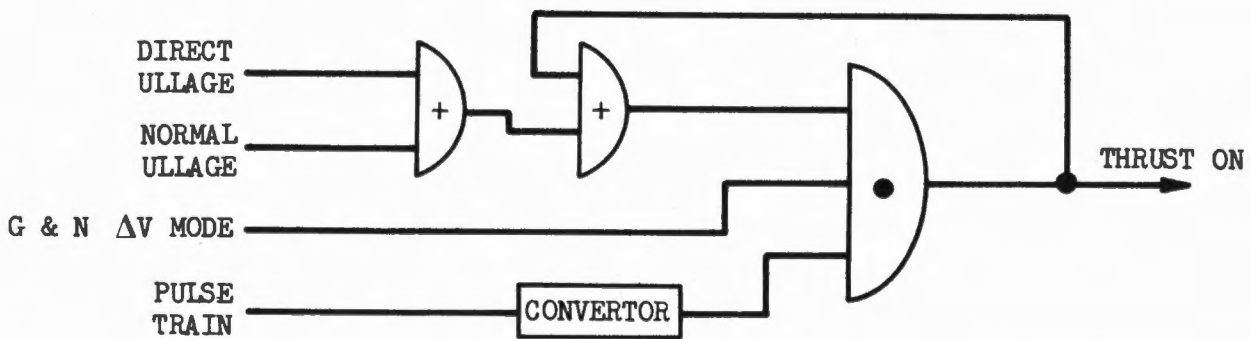
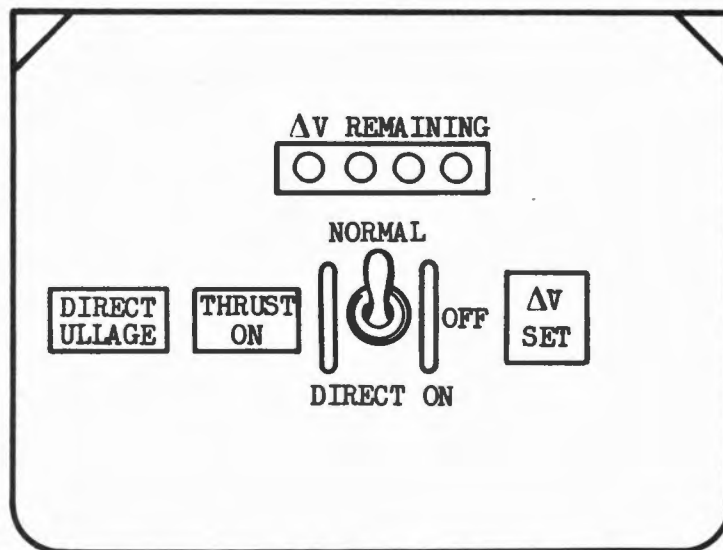
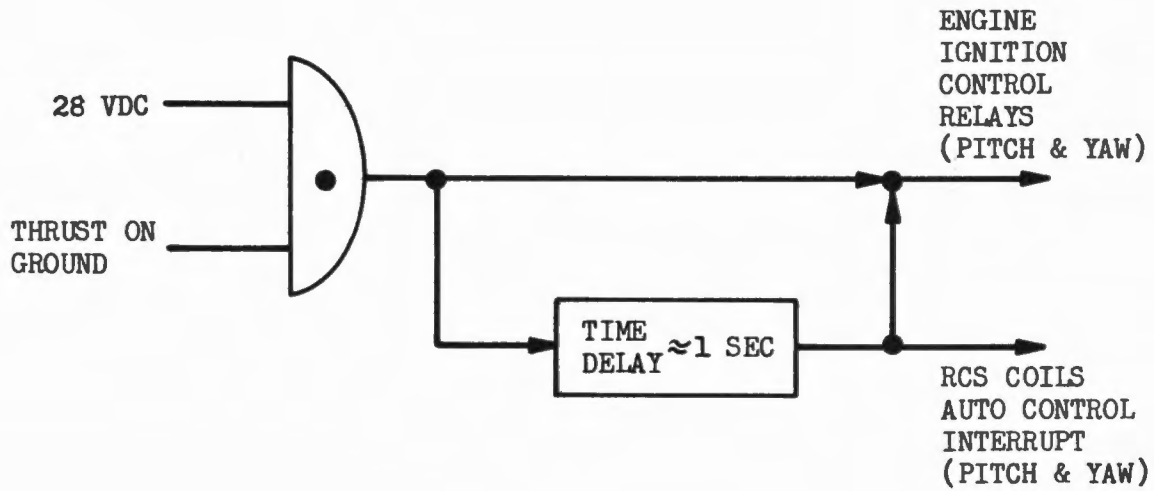

Figure 5-19. G&N Thrust On Logic
Figure 5-20. Delta V Indicator
Figure 5-21. Thrust On Signal Control Functions
5.2.2.2.1 Within the SCS, the pulse train is detected and converted into a dc logic signal. The signal is then "added" with both the presence of the G&N Delta V mode signal and either a normal + X ullage or the direct ullage signal, see Figure 5-19. Satisfaction of these conditions result in an "on" condition for both switching amplifiers and an "on" output to the THRUST ON light behind the THRUST ON pushbutton of the Delta V indicator, (see Figure 5-20). In their "on" condition the switching amplifiers provide a ground for the SPS coils. Removal of the pulse train or the G&N Delta V mode signal will return the switching amplifiers to the "off" condition. Ullage is normally manually terminated one second after thrust "on". A latching circuit on the ullage logic is provided to satisfy this logic section. In addition to the SPS engine "on" and thrust "on" pushbutton illumination functions, the thrust "on" signal is used to inhibit the pitch and yaw RCS automatic control paths, and to close the inputs of attitude and rate error signals to the TVC servo amplifiers, thereby providing gimbal control of the pitch and yaw axes, (see Figure 5-21). The gimbal control path includes the time delay on the removal of "thrust on" to retain gimbal control during the significant portion of the thrust decay period. The RCS inhibit is delayed "on" to insure ullage during the thrust buildup period.
5.2.2.3 SCS Automatic Control. SCS control of the SPS engine is manually initiated. Originally the pilot was to initiate the command, but the addition of the Manual TVC mode as the corrective path for G&N, SCS, and/or common TVC electronics control path failures requires the retention of the left hand on the translation control and makes it desirable to retain the right hand on the rotation control (see section describing thrust vector control functions for more details). It now appears that the navigator is in best position to initiate the SPS engine on command as a left handed function. The command is initiated by depressing momentarily the THRUST ON pushbutton just to the left of the thrust control switch on the Delta V display, (see Figure 5-20).
5.2.2.3.2 The Delta V remaining counter is a stepping motor that is driven by signals from an accelerometer that senses velocity changes along the SC X axis. The circuitry, once an ullage signal is present, counts down with a + X acceleration or up with a - X acceleration from the present shaft position. The value stored is available visually on the Delta V display, (see Figure 5-20). This value can be adjusted in either direction with the Delta V switch on the same panel. This indicator will be preset to the velocity gain desired along the X axis as part of the Delta V procedure. A coincidence detector switch is connected to close at the shaft position equivalent to a Delta V remaining